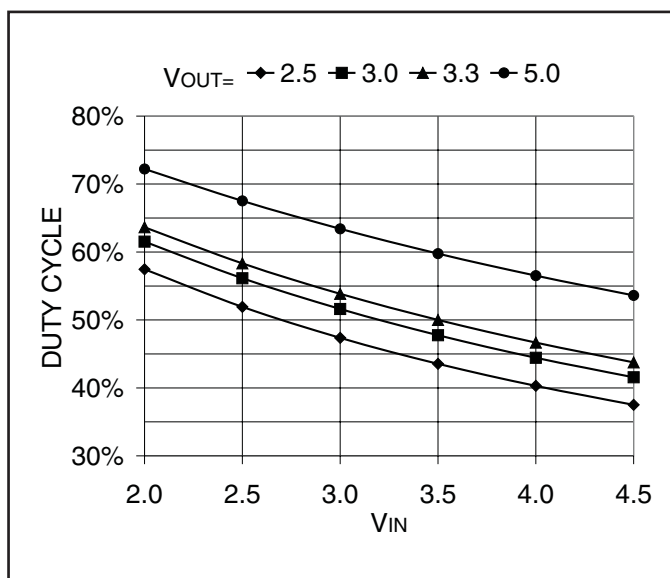

Figure 10. Duty cycle of CCM flyback converter as a function of input and output voltage.
For the flyback topology, using a coupled inductor with a 1:1 turns ratio, the duty cycle is defined by equation (11). This is shown graphically for a number of common output voltages in Fig. 10.